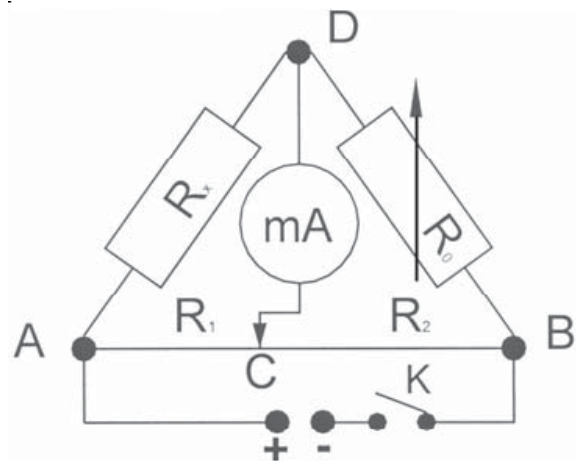

Fig. 1
In order to determine a resistance a Wheatstone bridge circuit is set up (see Fig. 1).
- Connect up the experiment setup as illustrated (see Fig. 1).